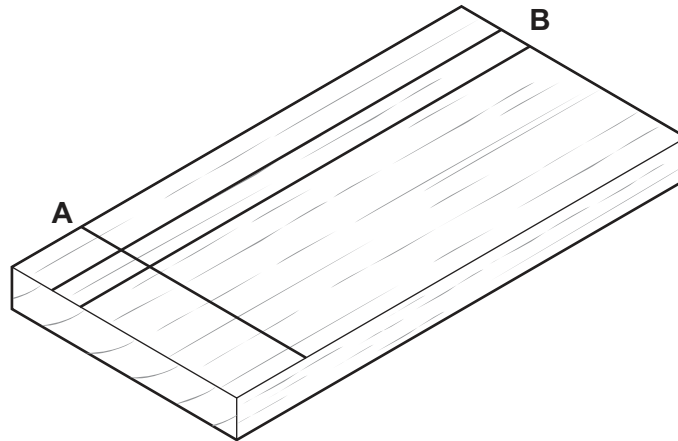

Fig. 5.1
- 5 Fig. 5.1 shows a hardwood block with line **A** marked across the grain and lines **B** marked along the grain.